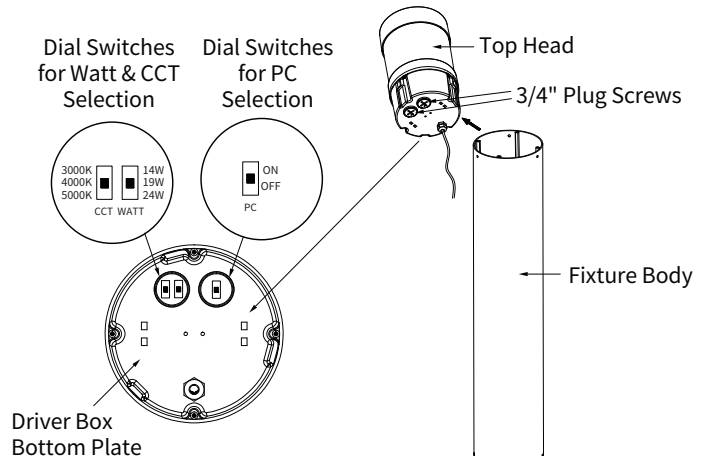

Fig 4
5. Remove the 2 # 3/4" plug screws, and select desired wattage & CCT, select desired PC on/off, through the dial switches on the driver box bottom plate. **Fig. 4**